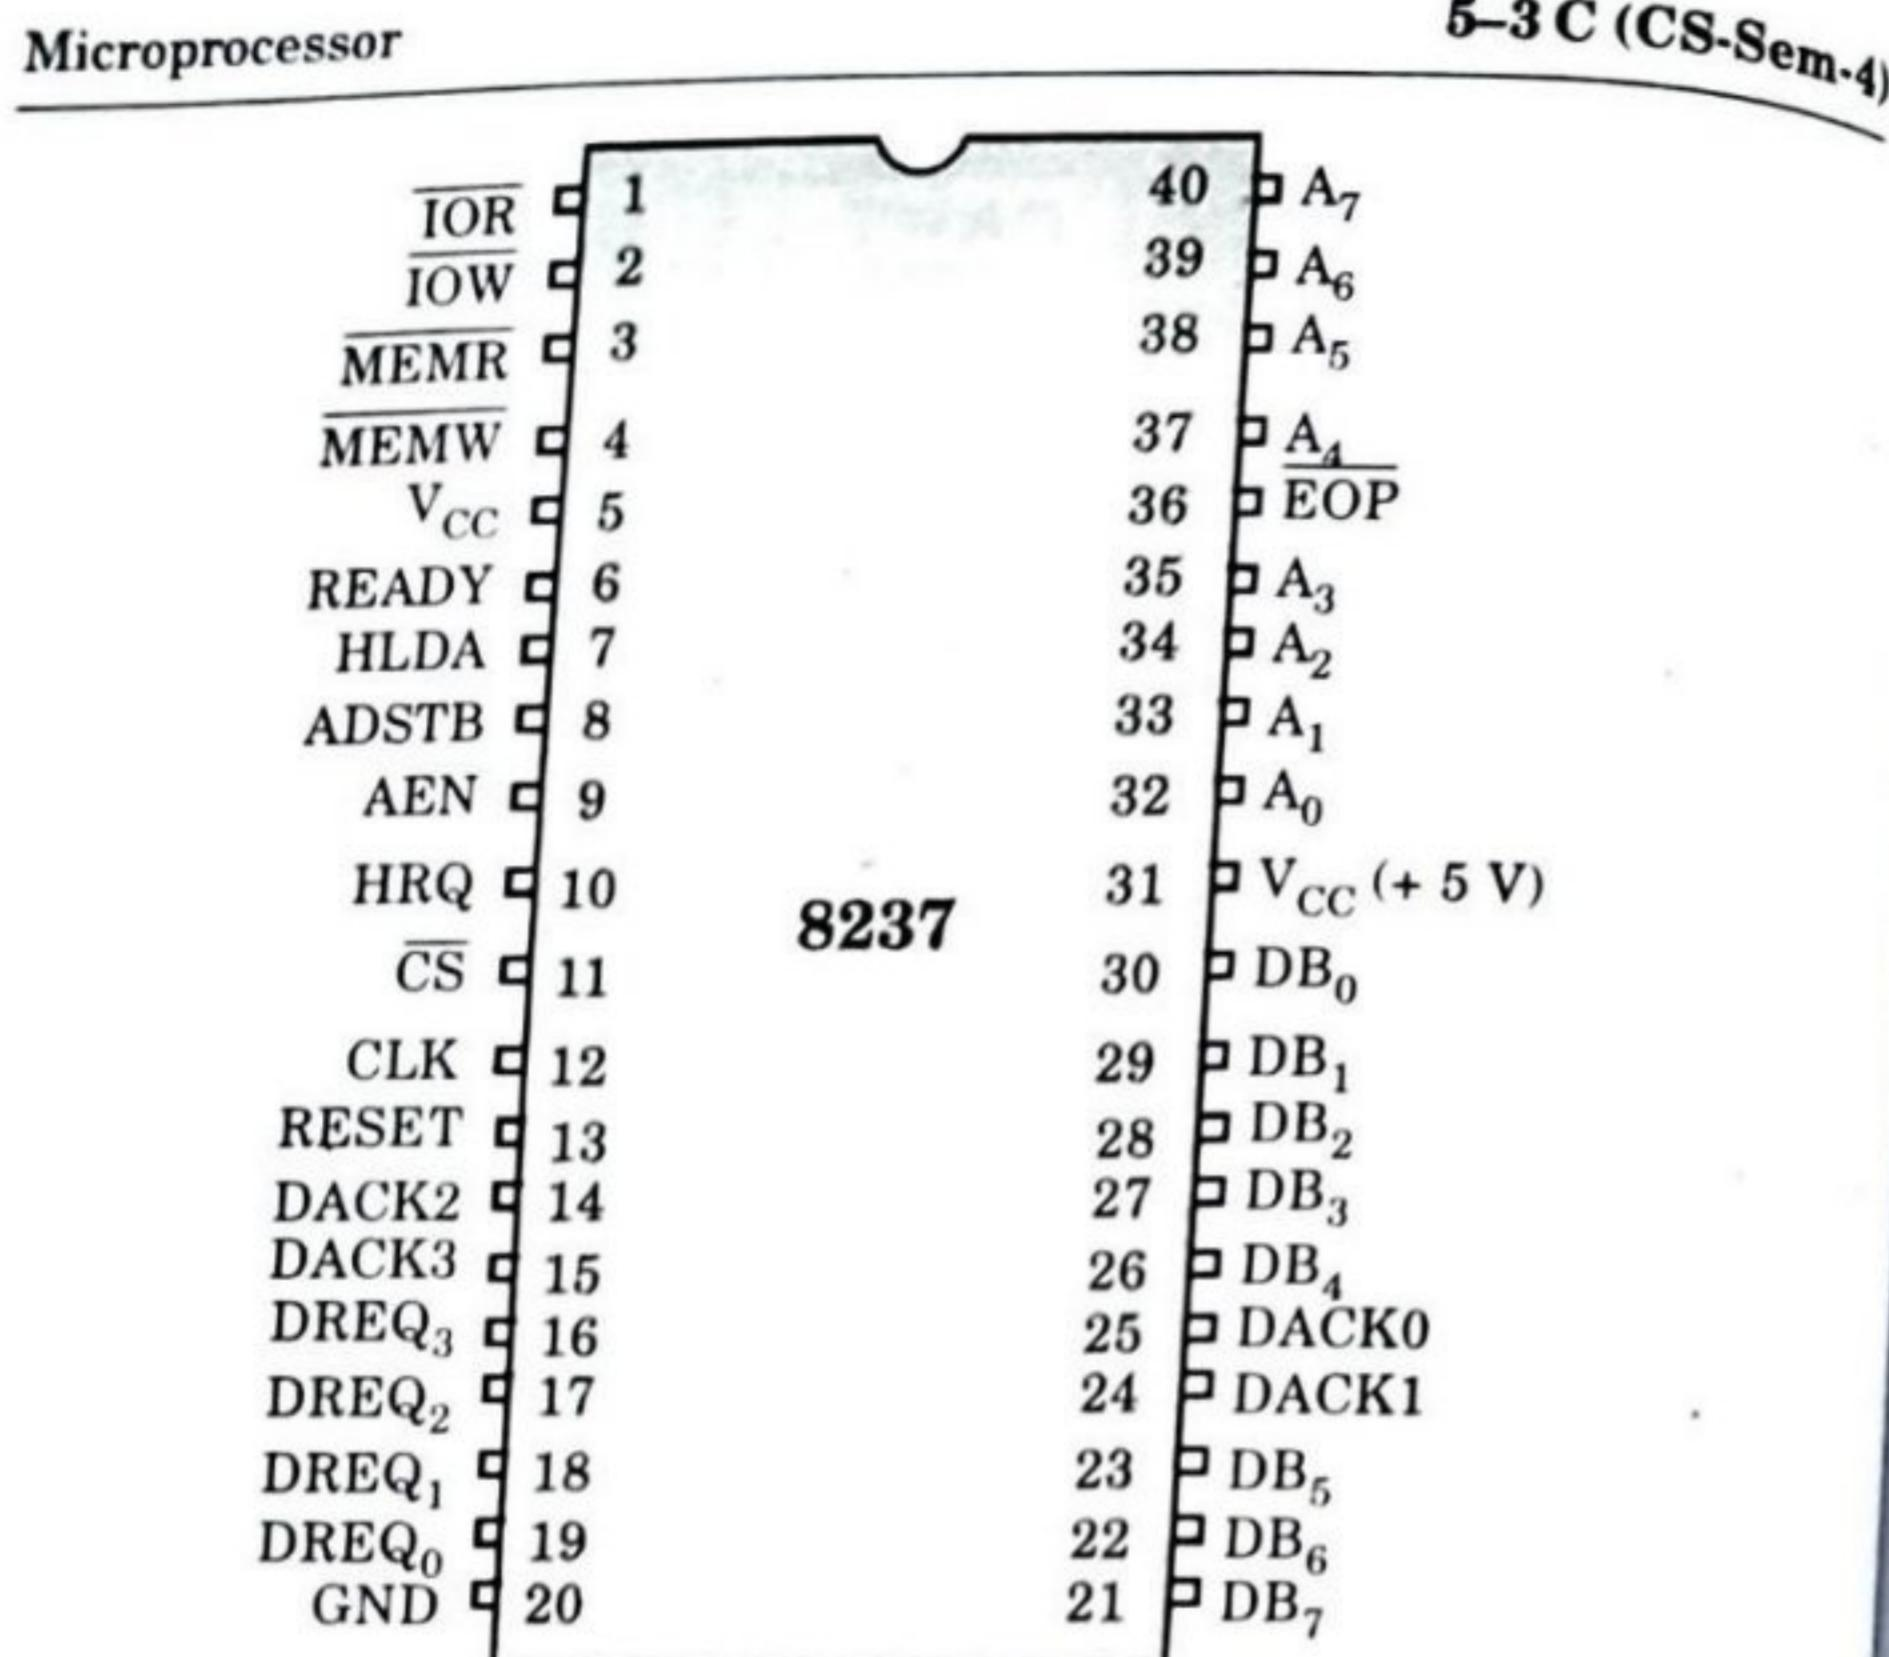

Fig. 5.1.1. Pin diagram of 8237.
- B. **Pin diagram :** Pin diagram of 8237 DMA controller is shown in Fig. 5.1.1. The functional signal description in brief as follows :